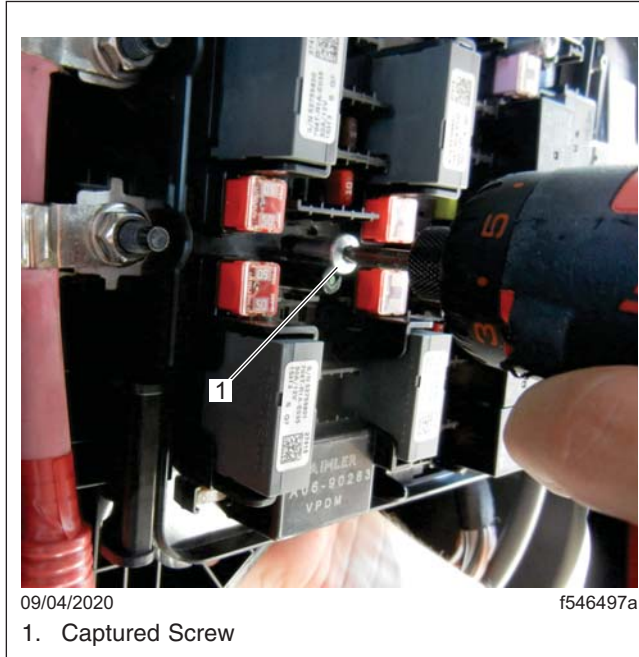
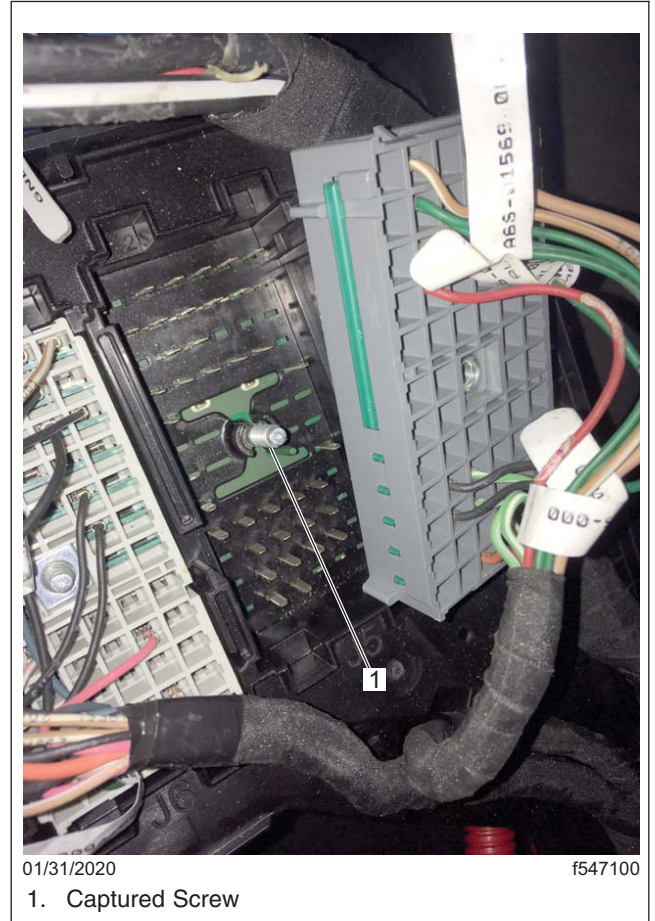

Fig. 3, Captured Screw, Front of VPDM
Fig. 4, J5 Connector Removed from Back of VPDM
8. Locate and remove the VPDM J5 connector. First loosen the captured screw at the front of the VPDM (see **Fig. 3**), then remove the J5 connector from the back of the VPDM. See **Fig. 4**.